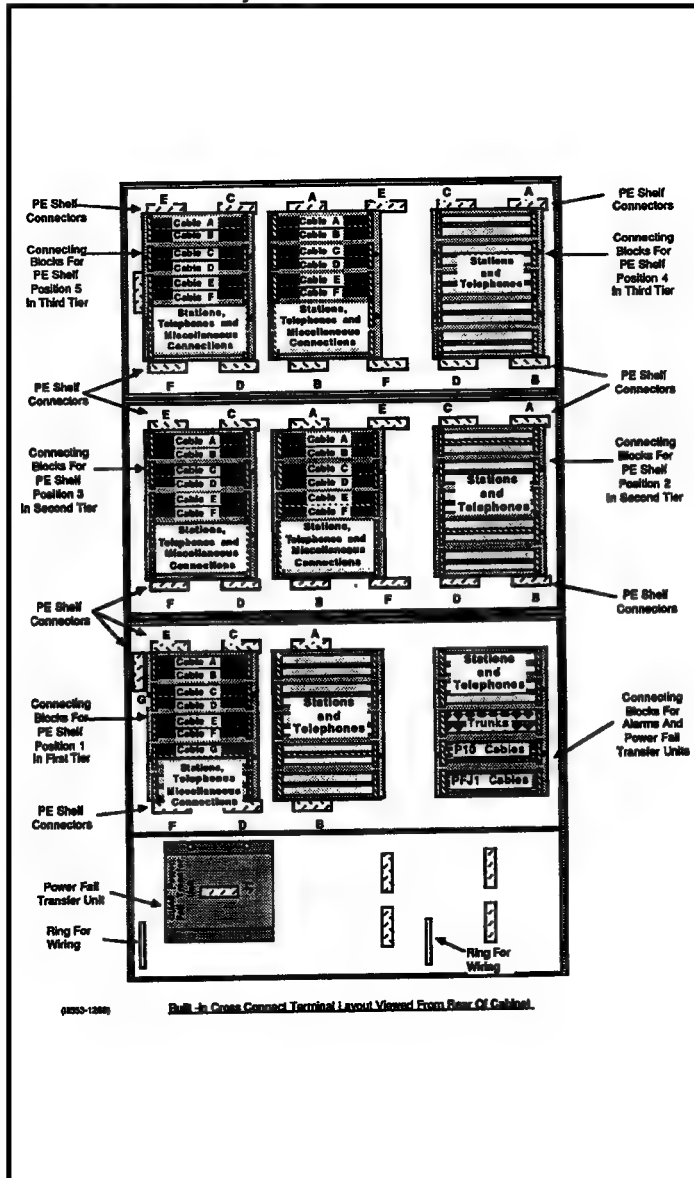

Figure 2-4
- 23 Install cross connections for RPE cables C and D as shown in Fig. 2-4, Fig. 2-17 and in Part 6 of 553-2601-200.